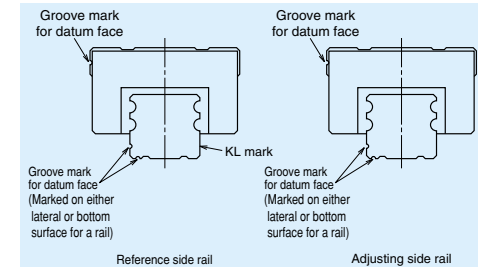

Fig. II-9-1
- In case that two or more linear guides are used together, one linear guide is designated as a reference side guide, and the rest is adjusting side guide(s). The reference side rail has its reference number, serial number, and "KL" mark on the opposite side of the datum face (Fig. II-9-1).